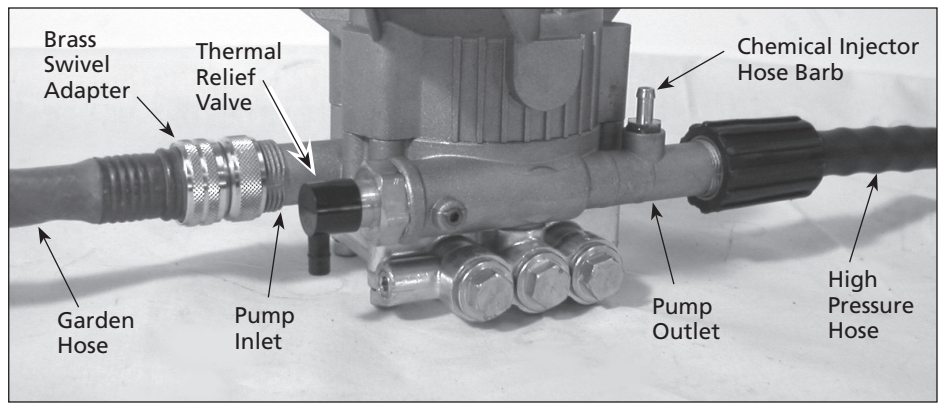
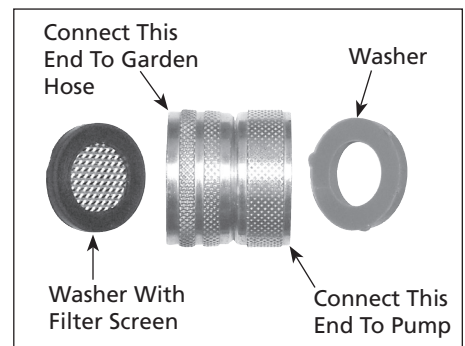
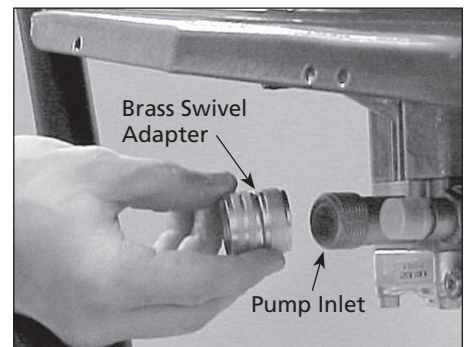

Figure 2 - Pump hook up
Figure 4 - Brass swivel adapter
Figure 5 - Connect the brass swivel to the pump
4. **Brass Swivel Adaptor** (See Figure 2). If it's not already attached to the pump inlet, assemble the brass swivel adaptor and attach it to the pump inlet (See Figure 4 and Figure 5). Be sure to connect the correct side of the brass swivel adaptor to the pump.
6. Connect the high pressure hose to the pump outlet (See Figures 2 and 6).